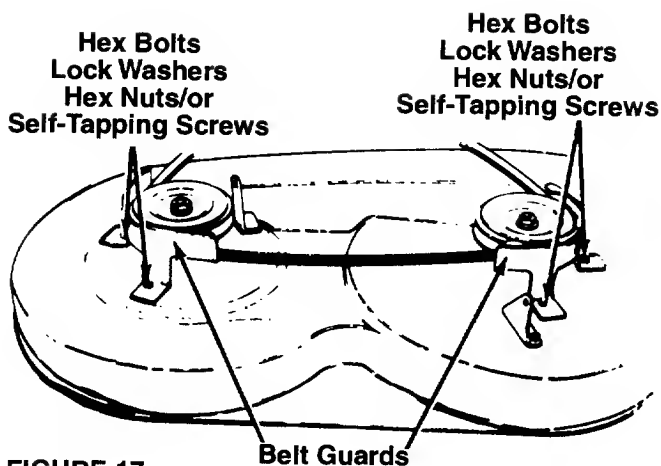

FIGURE 17.
7. Remove the belt guards at each deck pulley by removing the hex bolts, lock washers and hex nuts or self-tapping screws. See figure 17.